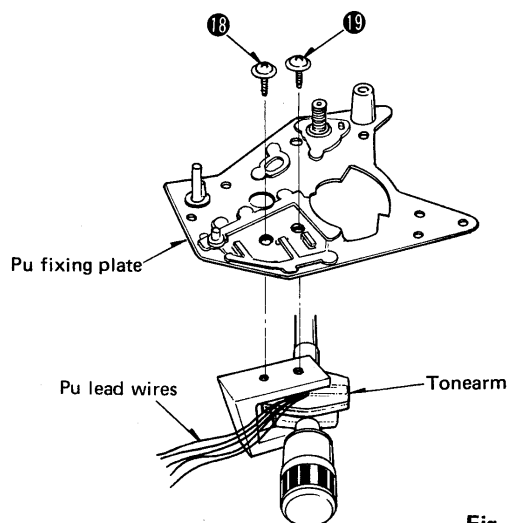

Fig. 9
• How to remove the tonearm (Fig. 9)
3. Remove the 2 setscrews [Fig. 9: ⑱ ~ ⑲] of the lift P.C.B.